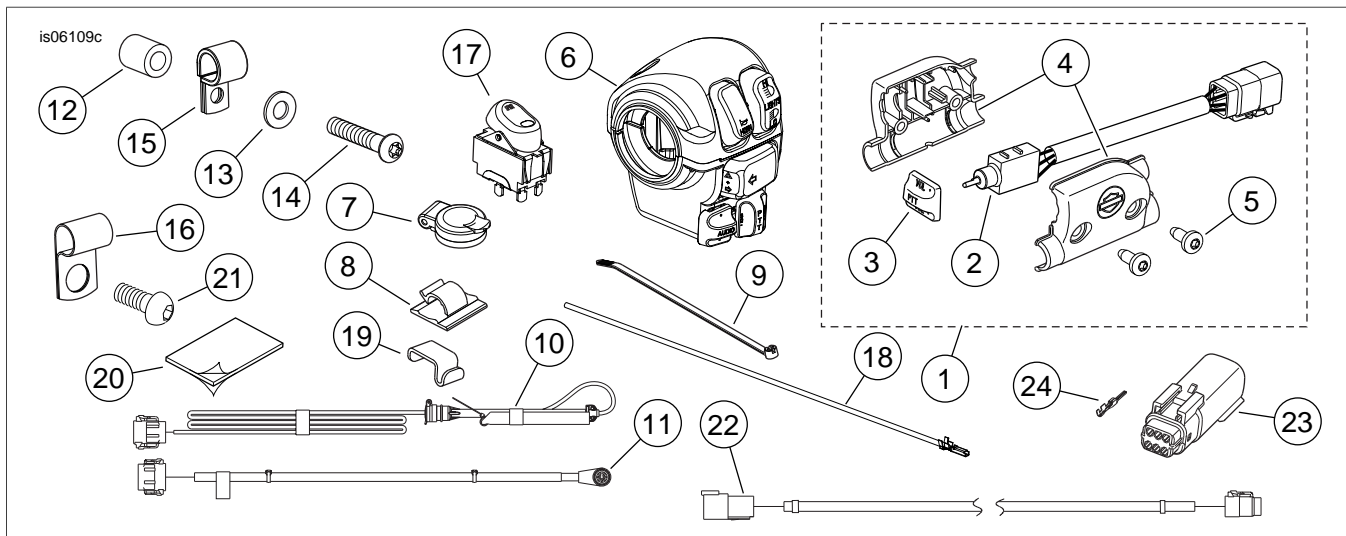

Figure 7. Service Parts, Music and Intercom Kit
See Figure 7 and Table 2.
1. See Figure 1. Install push-to-talk switch housing (2) to passenger headset plug housing (3), included as part of passenger headset wire harness (see Figure 7, Item 10).
3. Install self-tapping screws (1) to the switch housing but do not fully tighten at this time. Location adjustment may be required based on the motorcycle model, seats and accessories installed on the vehicle.
2. See Figure 7. Remove the spring and conduit from the passenger headset wire harness (10).
5. Connect the 8-way connector of the passenger headset wire harness (10) to the mating connector on the Non-Ultra Overlay Harness (installed in Step 1) marked "PASSENGER HEADSET".
6. Connect the 6-way connector of the PTT/VOL jumper harness (22) to the mating connector of the Non-Ultra overlay harness marked "RIGHT REAR SPEAKER CONTROL". Connect the other end of the jumper to the connector on the switch subassembly (1).
For motorcycles WITHOUT docking hardware, See Figure 7. Use the fender support cover fastener to install the smaller P-clamp (15) from the kit.
2011 and later models will require the connector on the switch subassembly (Figure 7, item 1) to be replaced with the supplied housing and terminals (items 23 and 24) included in this kit. See service manual for installation instructions.
5. See Figure 7. Install the weather cap (7) assembly on the rider headset connector by installing the locking ring inside the flip cap.